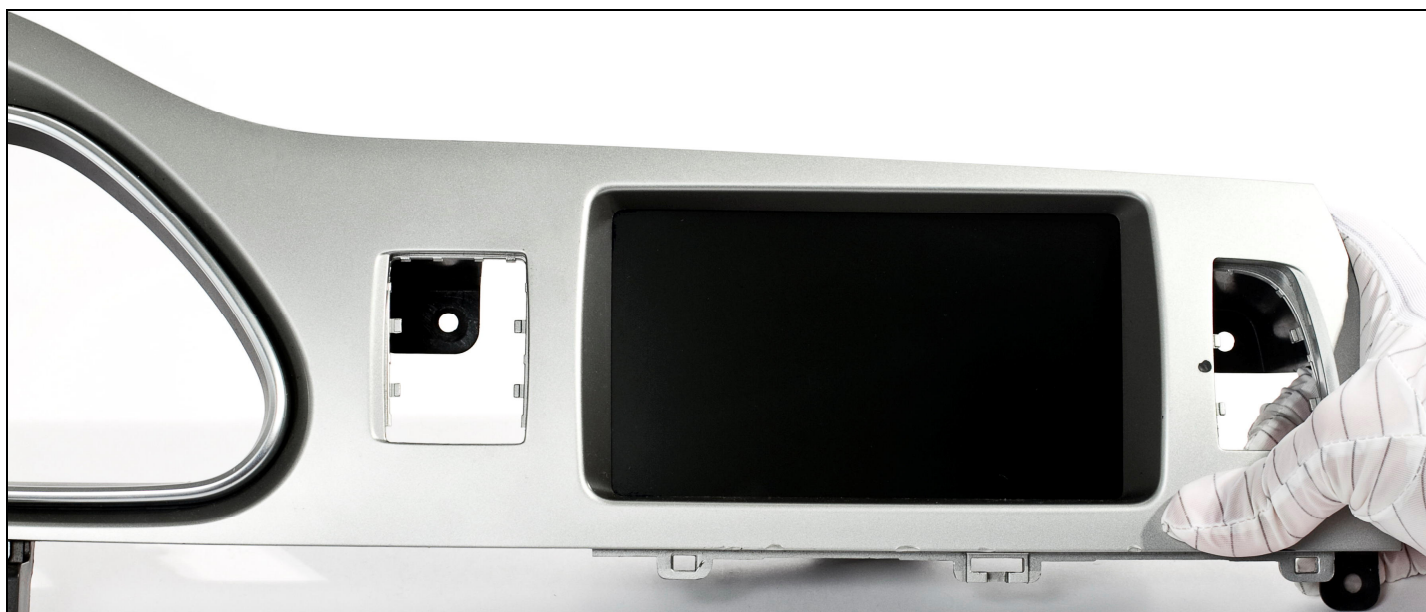

Figure 7
3. Remove the original dashboard with a mounted display (**Fig. 7**).